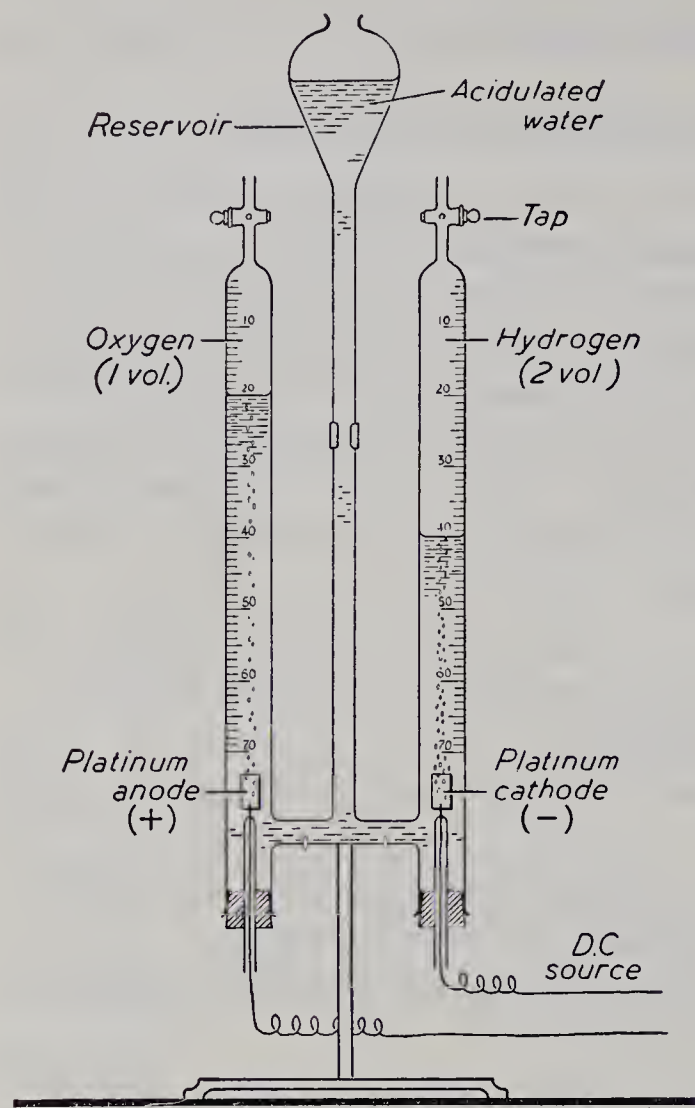

Fig. 39. The electrolysis of water using a Hoffman apparatus.
1. A Hoffman apparatus is used (Fig. 39). To about 250 ml. of water add about 5 ml. of concentrated sulphuric acid (TECH. 3). With both stop-cocks open, slowly pour the acidulated water into the reservoir until the two outer tubes are filled up to the taps. Avoid getting any liquid in the jet tubes above the taps. Close the taps and add enough acidulated water to half-fill the reservoir. Paste a